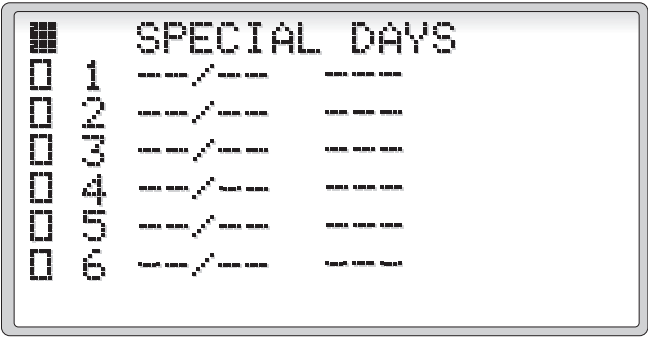

Figure 12
2.3.2.4 Special Days (Figure 12)